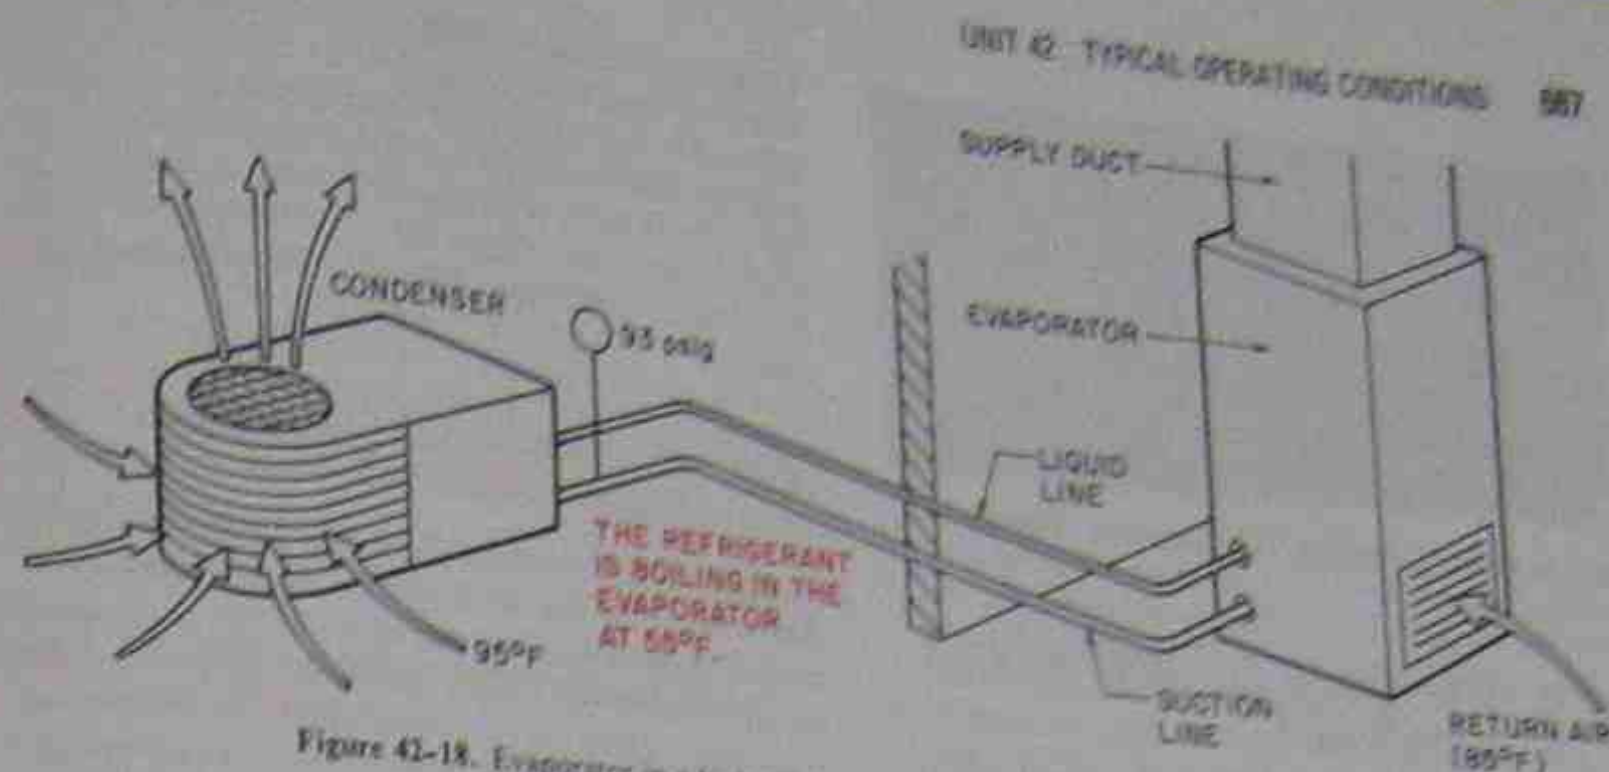

Figure 42-18. Evaporator in a high-efficiency system with a load above design conditions.
1. When the unit has been off long enough for the load to build up, the space temperature and humidity are above design conditions, and the high-efficiency system pressures will be higher than normal, as would the standard-efficiency system. With standard equipment, when the return-air temperature is 75°F and the humidity is about 50%, the refrigerant boils at about 40°F. This is a temperature difference of 35°F. A high-efficiency evaporator is larger, and the refrigerant may boil at a temperature difference of 30°F, or around 55°F when the space temperature is 85°F. Figure 42-18. The exact boiling temperature relationship depends on the manufacturer and how much coil surface area was selected.